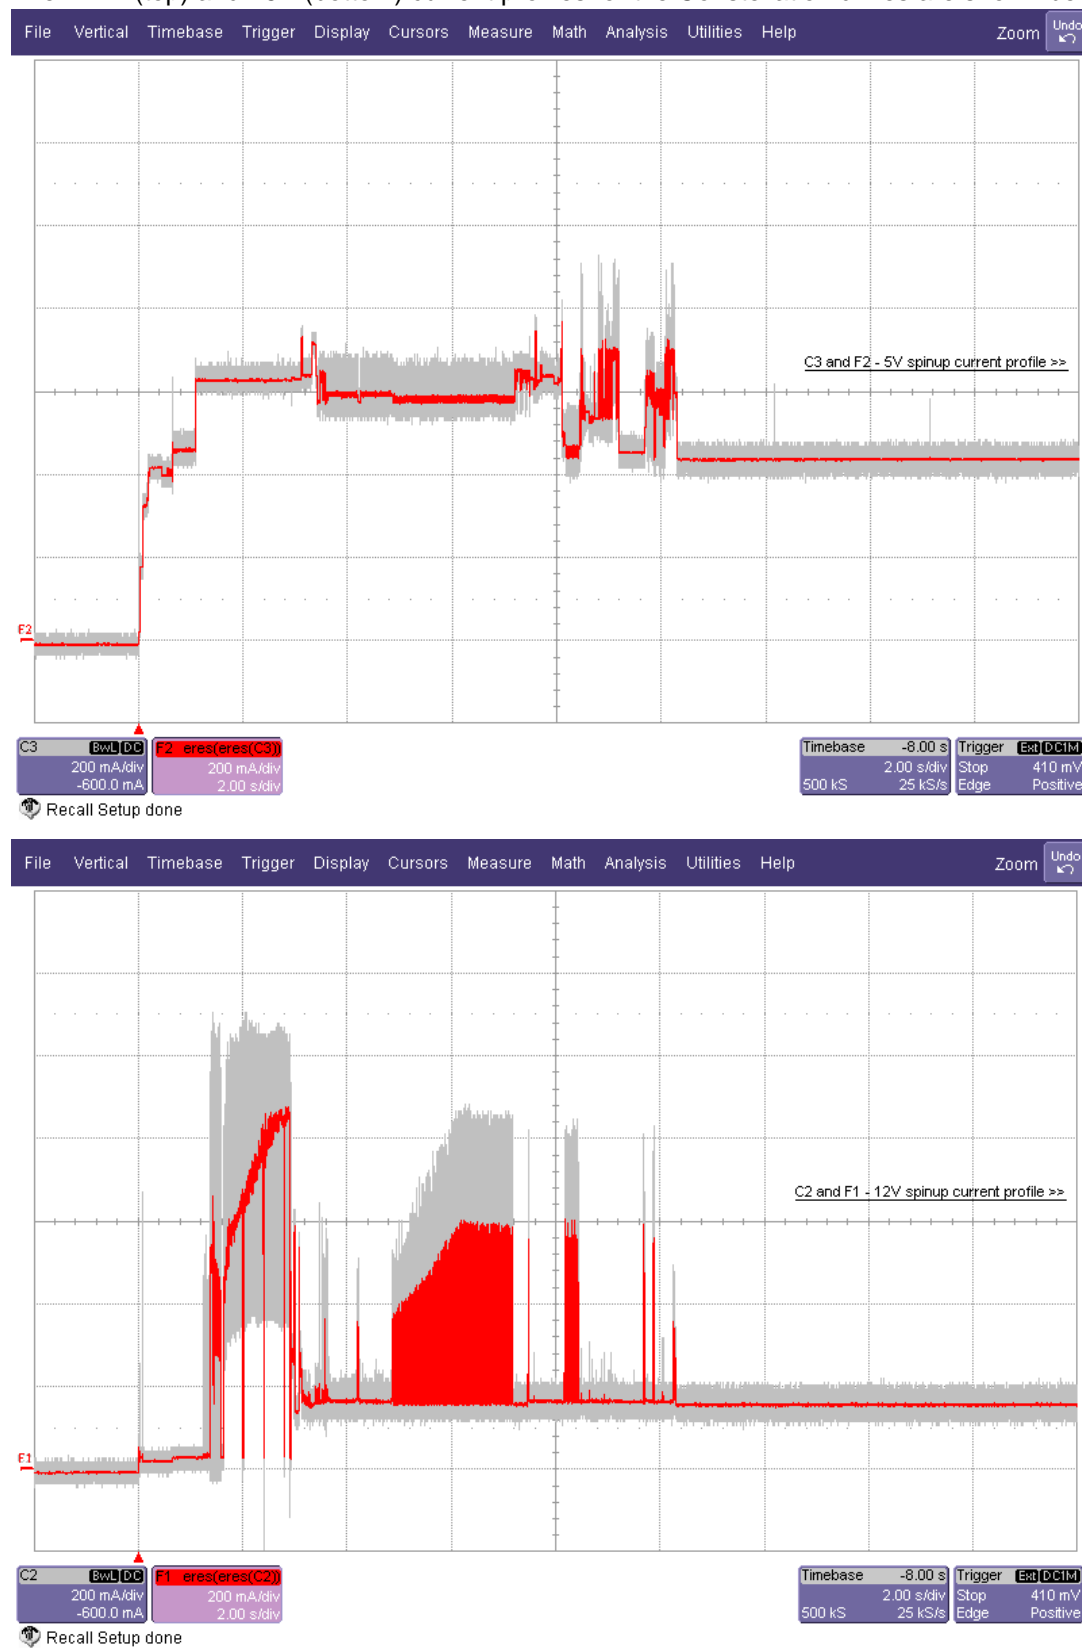

Figure 1. 1TB model current profiles
- [5] See +12V current profile in Figure 1.